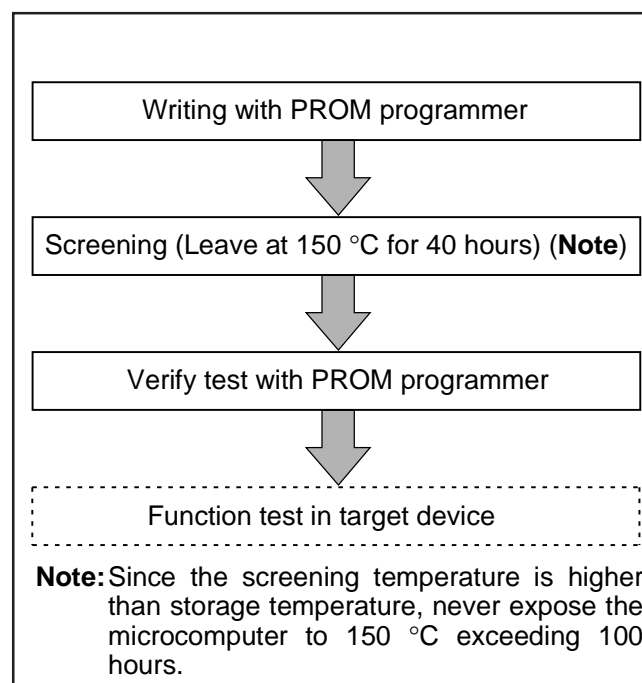

Fig. 56 Flow of writing and test of the product shipped in blank
Table 19 shows the product of built-in PROM version. Figure 56 shows the pin configurations of built-in PROM versions.
(2) Notes on handling
① For the One Time PROM version shipped in blank, Mitsubishi Electric corp. does not perform PROM writing test and screening in the assembly process and following processes. In order to improve reliability after writing, performing writing and test according to the flow shown in Figure 56 before using is recommended (Products shipped in blank: PROM contents is not written in factory when shipped).
(3) Difference between Mask ROM version and One Time PROM version